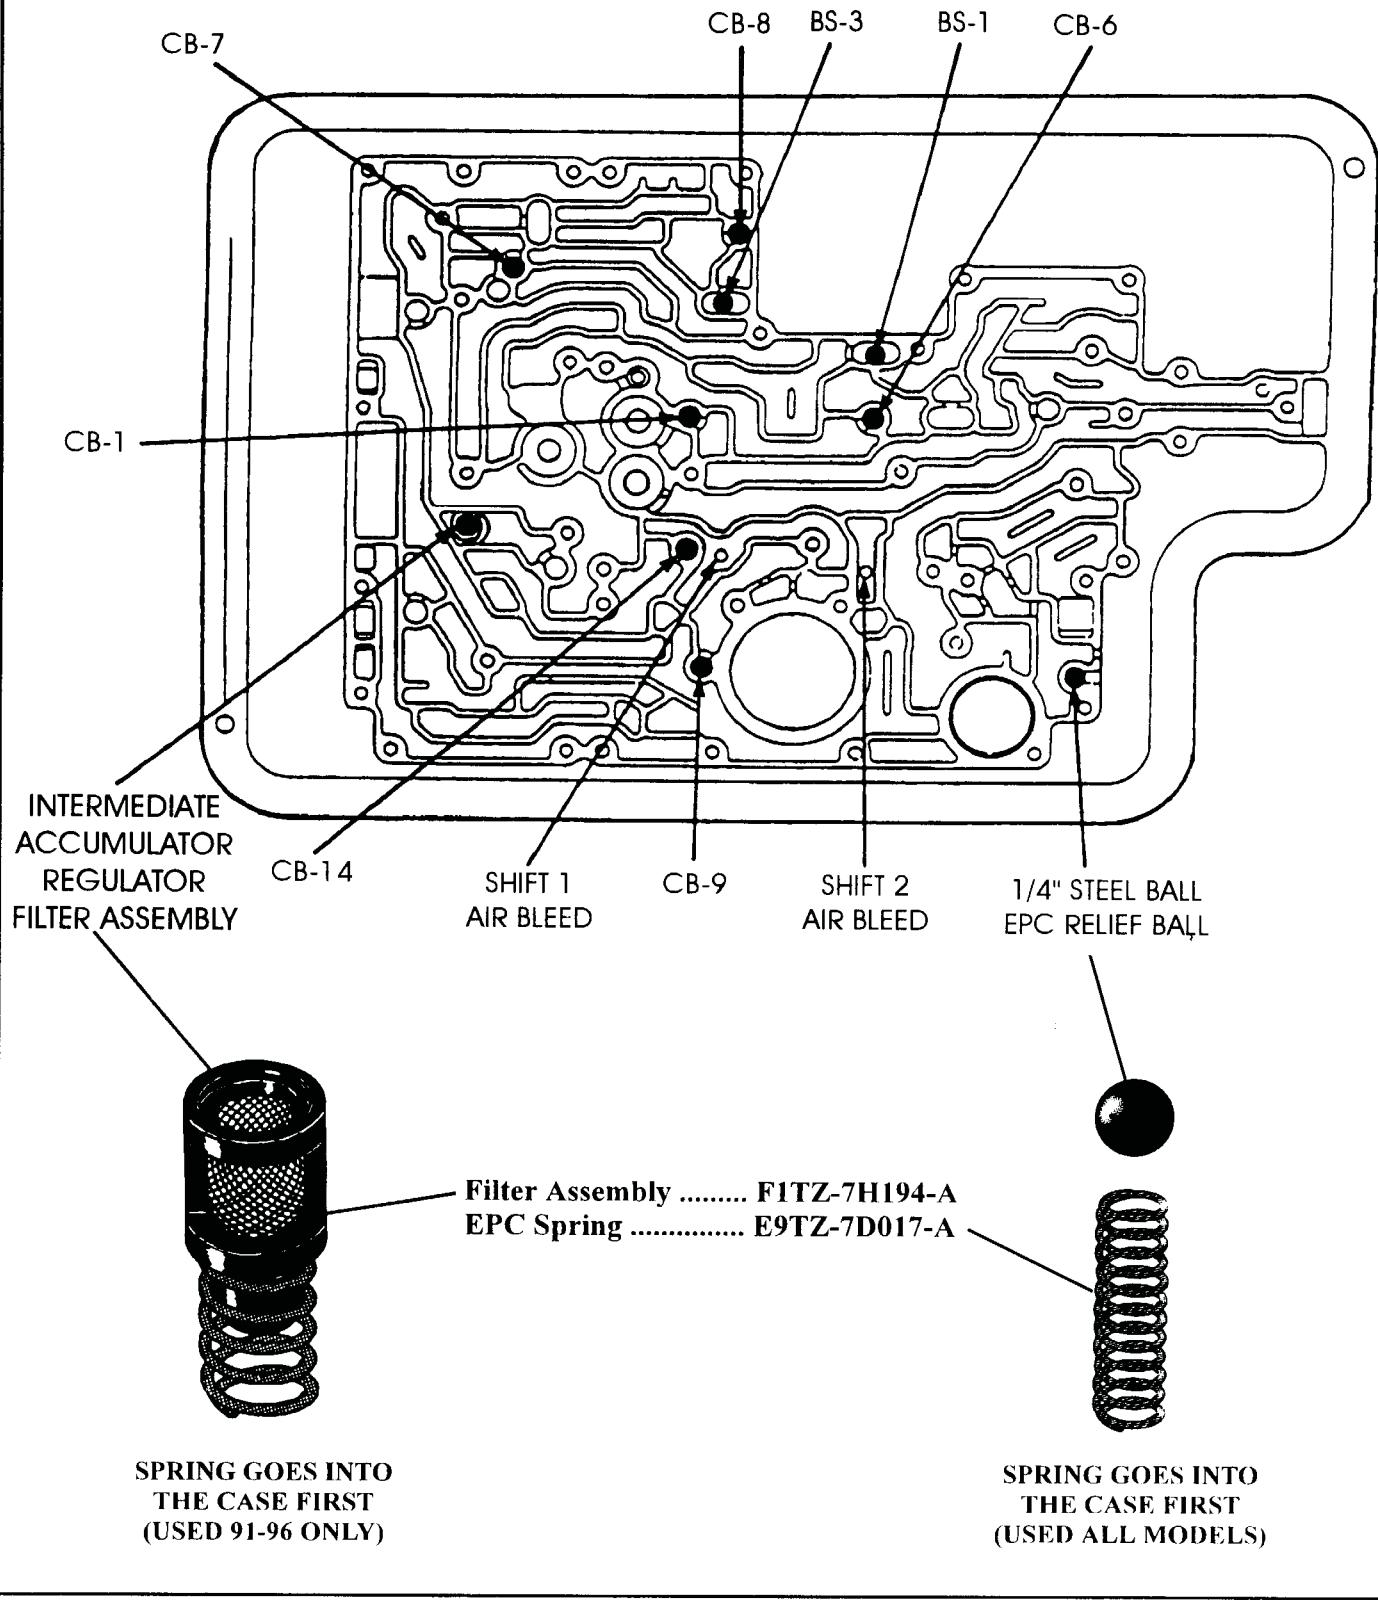

Figure 6
*All 1996-UP Models* - Requires **Eight** 5/16" rubber checkballs in the case, in the locations shown in Figure 6, and uses a 1/4" steel ball for the EPC blow-off, and the location is shown in Figure 6.